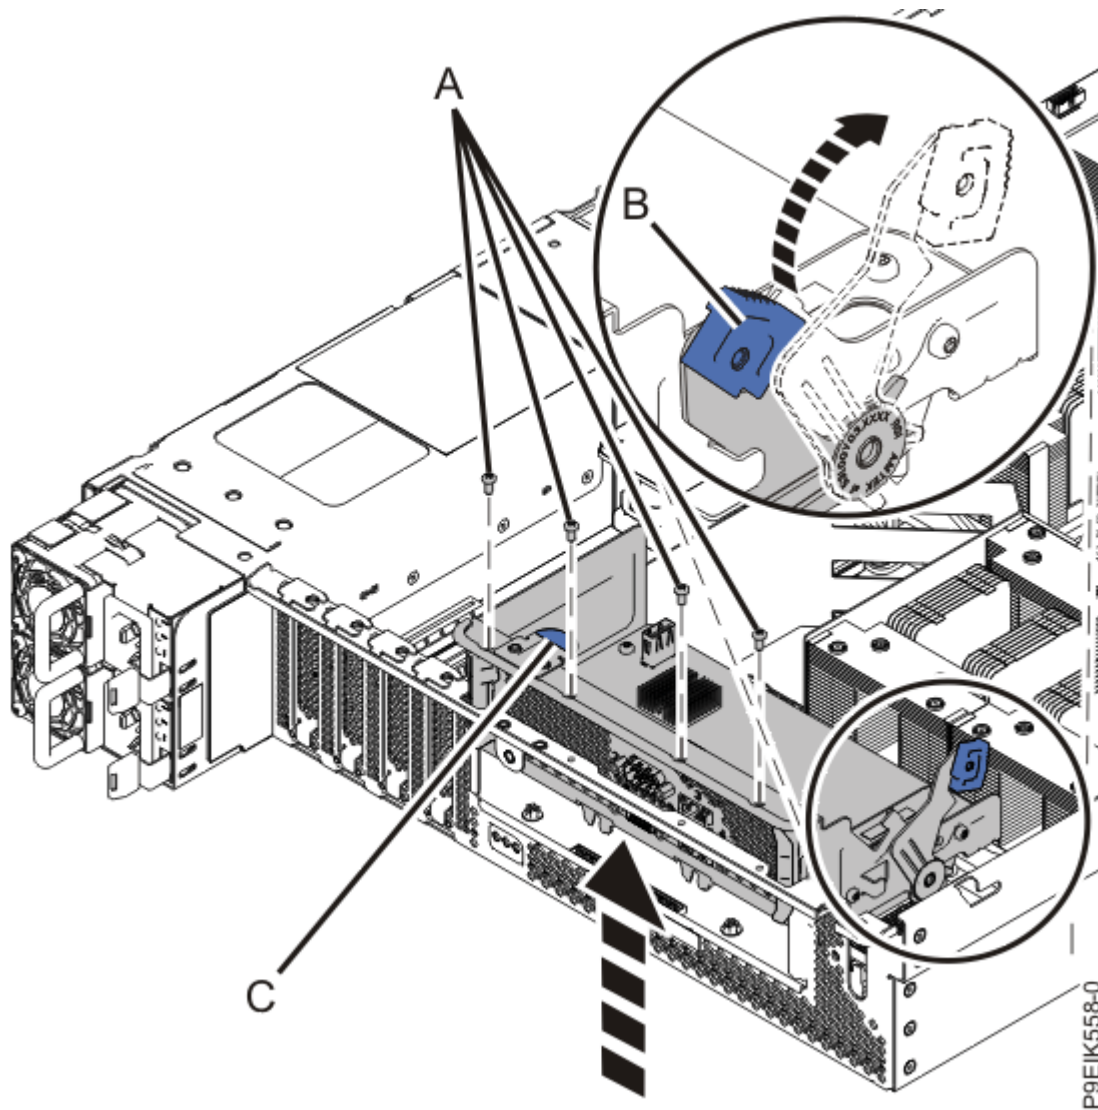

Figure 1. Removing the BMC card
3. To remove the BMC card, follow these steps as shown in Figure 1 on page 4.